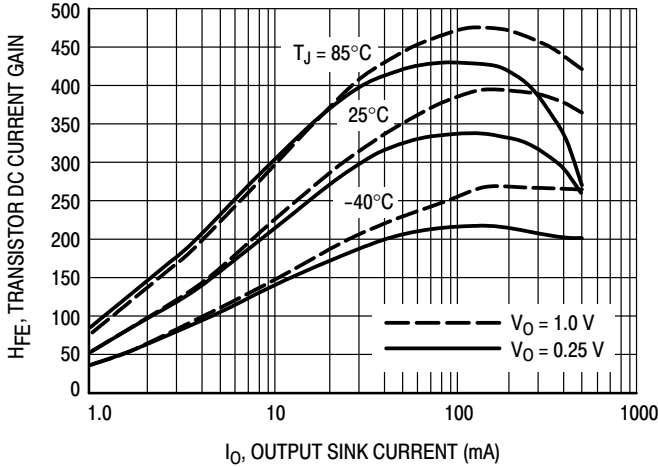

Figure 2. Transistor DC Current Gain
- While keeping any $V_{O(sat)}$ requirements in mind, determine the max input current needed to achieve that output current from Figures 2 and 6.